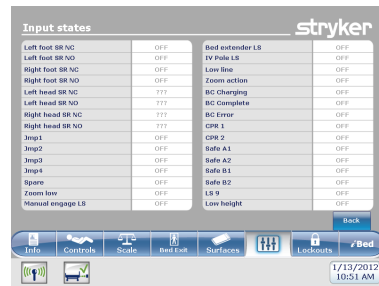

Figure 27c: Input States
- c. **INPUT STATES** (Figure 27c)